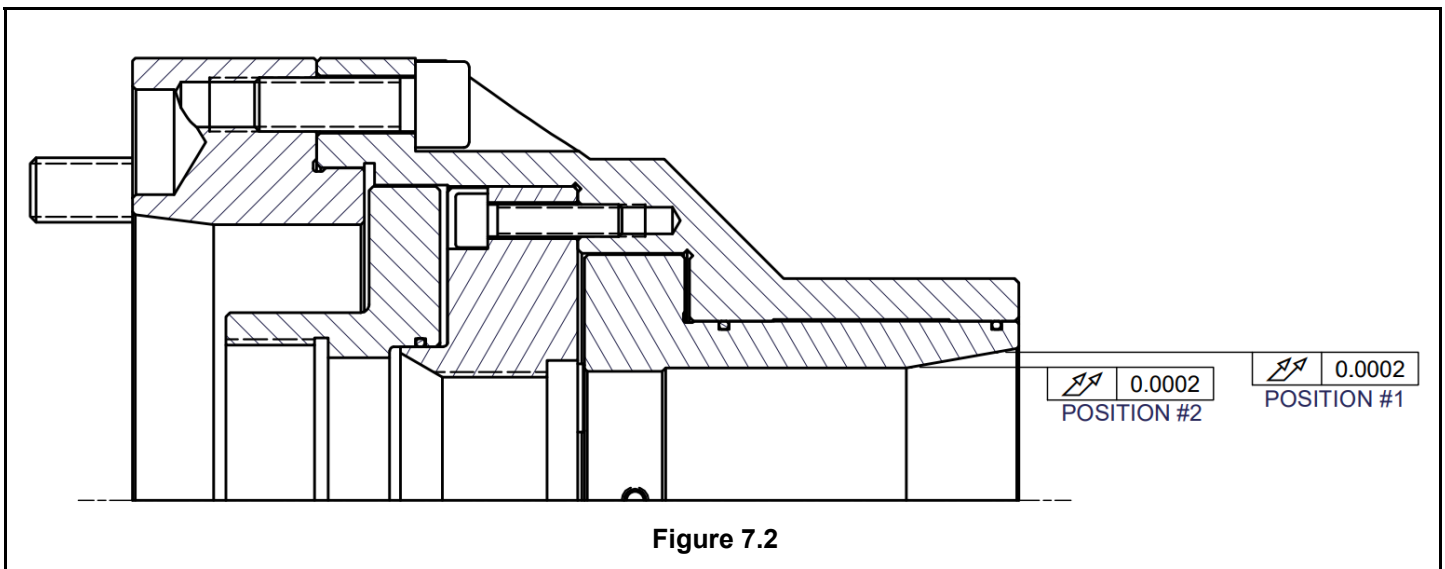
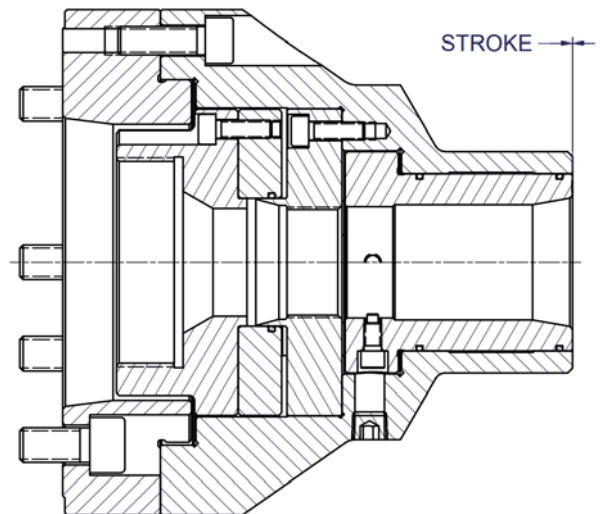

Figure 7.2
Figure 7.3
2. Make certain that the mounting surfaces of the chuck body and adapter plate are clean and free of nicks or burrs that could prevent the proper seating of the chuck body. Also make sure the (4) radial adjusting screws are not protruding into the locating diameter of the chuck body. Note:CB5C-D collet chuck assemblies do not contain radial adjusting screws.
6. Indicate the ID runout of the collet taper as shown in position #1 in Figure 7.2. Make adjustments to the (4) radial adjusting screws so that the runout of the collet taper is within .0002" (0.005mm). Note: CB5C-D collet chuck assemblies do not contain radial adjusting screws, and must be adjusted by loosening the mounting bolts and tapping the chuck assembly with a plastic hammer.
7. Before tightening the mounting bolts, measure the runout of the collet taper on position #2 in Figure 7.2. If the chuck body is properly seated on the adapter plate, the runout measured on position #2 should be the same as position #1. If the runout measured in position #2 exceeds the runout of position #1 by more than .0001" (0.0025mm), remove the chuck body from the adapter plate and repeat this mounting procedure.
8. After the runout of the collet taper has been adjusted, tighten the mounting bolts to the torque specifications given in Section 4. Also make sure to tighten all (4) radial adjusting screws.
9. Actuate the draw tube to verify that the chuck is functioning correctly by measuring the stroke of tapered sleeve as shown in Figure 7.3.